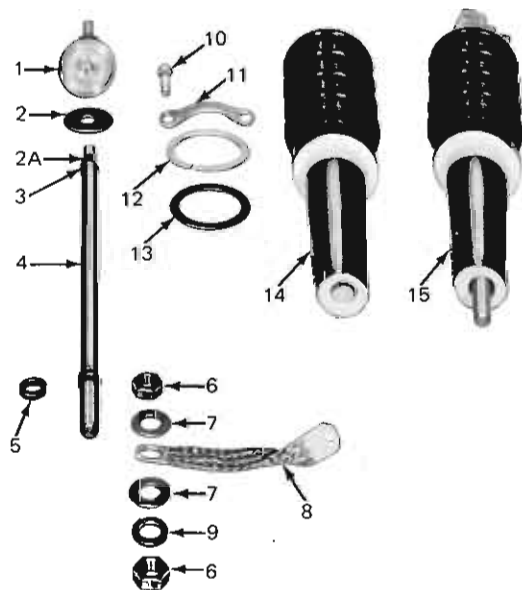

Figure 24
1. Remove, in order, from the lower end of bushing rod the hex nut, lock washer, flat washer, terminal lead, flat washer, and hex nut. See Figure 24.